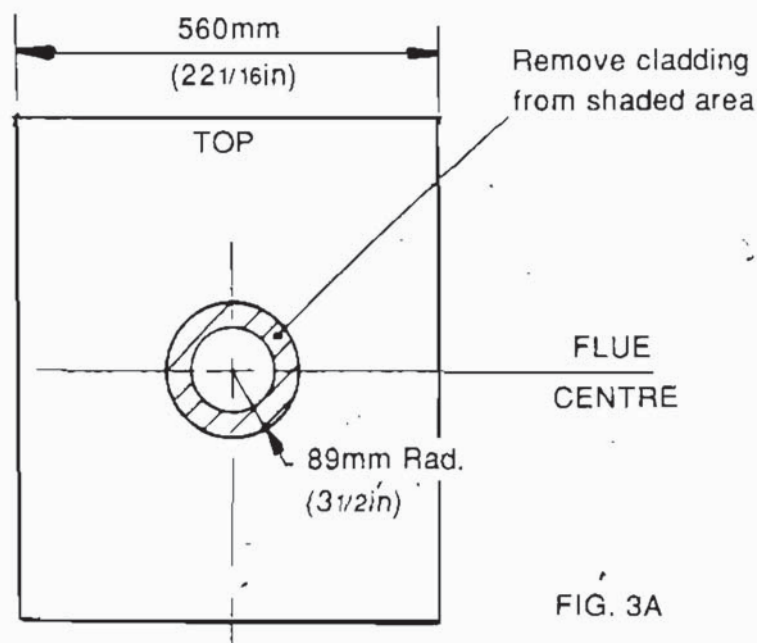

FIG. 3A
1. Proceed as detailed in Section 4 for brick wall EXCEPT that the hole through the combustible part of the wall must be 178mm (7in) in diameter. (Fig. 3A)